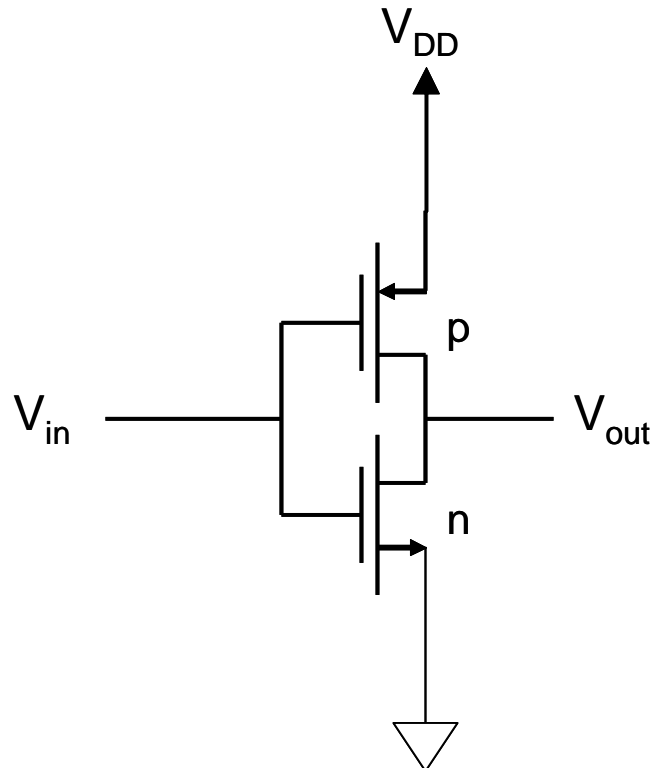

Figure 4: The CMOS inverter
The logic inverter in Figure 2 has one major flaw. The power dissipation is too high when the output is low. This would not be a practical logic gate in a modern integrated circuit because a large number of these gates would use a huge amount of power. The CMOS logic family significantly reduces power dissipation by replacing the drain resistance ( $R_D$ ) with a p-channel MOSFET as shown in Figure 4.
j) Build the CMOS inverter shown in Figure 4. Here, use output 1 from the Power Supply for  $V_{dd} = 10V$ , and output 2 for  $V_{in}$ .
m) Using an Ammeter, determine the total power dissipation of this inverter when  $V_{in} = 0$  and when  $V_{in} = 10V$ . Assume that the two inverters (Figure 2 and Figure 4) are in the high state 50% of the time and in the low state 50% of the time for many logic applications. **Compare the average power dissipation of the two inverters, and describe the benefit of CMOS logic.**